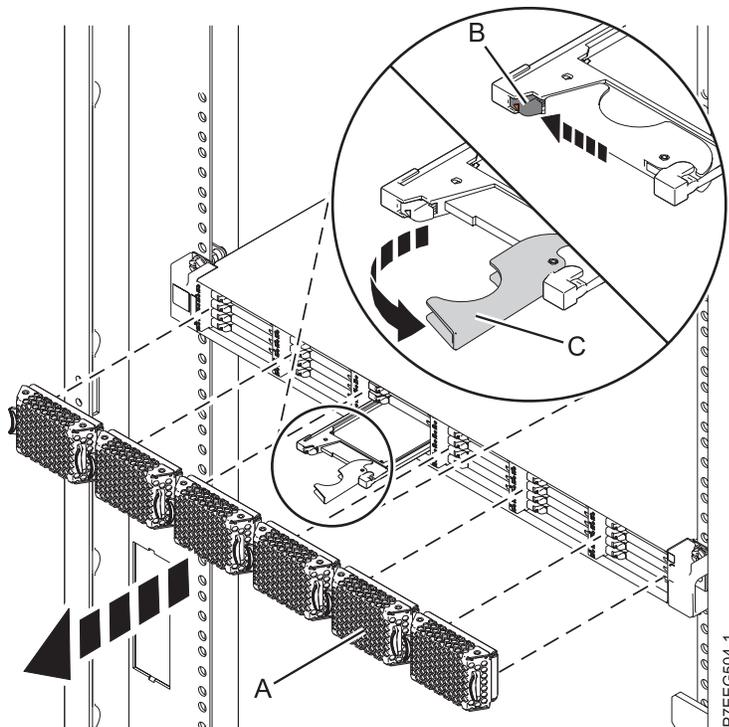

Figure 26. Removing the solid-state drive from the ED/R1 PCIe storage enclosure
1. Pull off the bezel (A) that covers the slot that contains the solid-state drive. See Figure 26.
2. Slide the release latch (B) over gently to unlock the drive handle.
3. Grasp the handle (C) and pull the drive partially out of the slot.